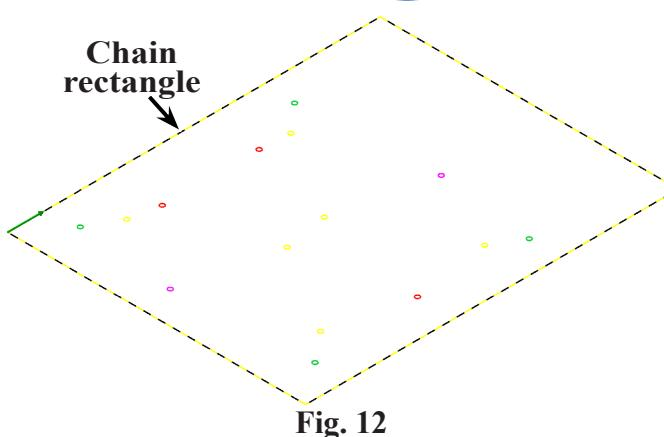

Fig. 12
Step 4. Click a **line of rectangle** to chain rectangle, Fig. 12.